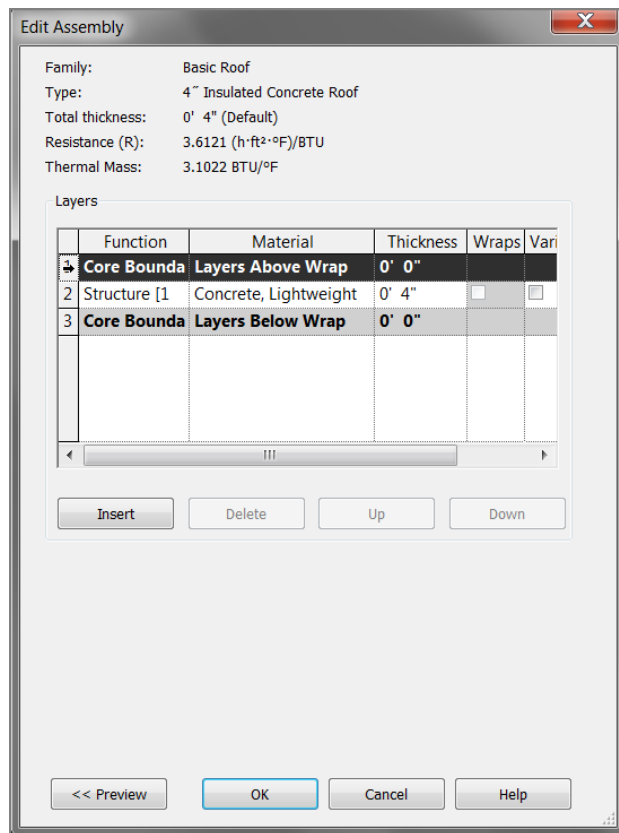

FIGURE 7.5: Changing the material and adding a layer
8. Change the structure Thickness to **4" (100mm)**, as shown in Figure 7.5.
9. Insert a new layer above the core boundary. (You do this by clicking the number on the left side of the Layers Above Wrap row and clicking the Insert button below the Layers section, as shown in Figure 7.5.)